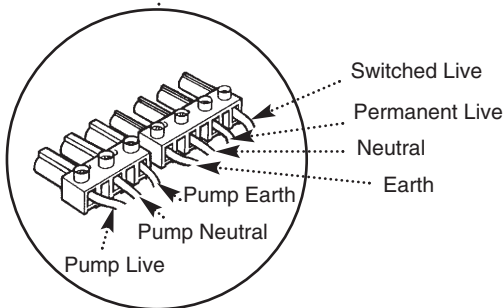

Fig. 82
3. The terminal strips may be removed by carefully pulling them forward. Connect the supply cable and the pump cable to the terminal strips (Fig. 82).